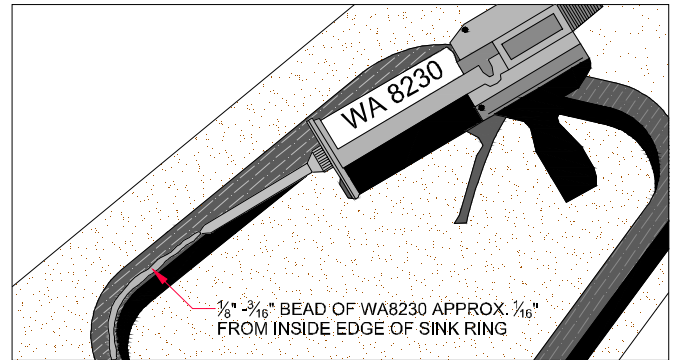

Figure 3A
- Align ring with alignment marks on the ring and the substrate. (FIG. 3A)